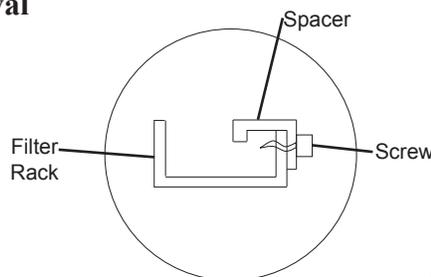

Fig. 6 - Filter Rack Detail
2. Install the top filter rack in the HVAC unit next to the indoor coil. Lift rack to the top of the return chamber and screw rack into coil frame on both the left and right side. Be careful not to insert screws where coil damage could occur. If using 2" (50.8mm) filters remove filter spacer. See Fig. 6.